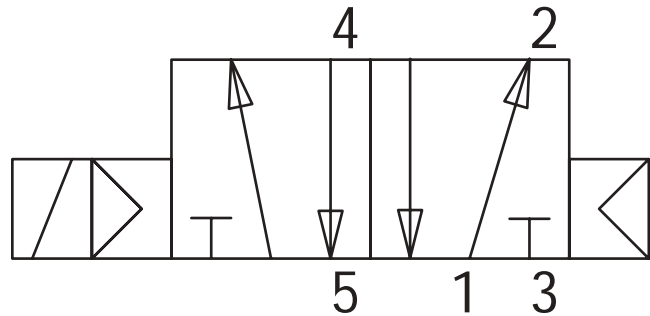
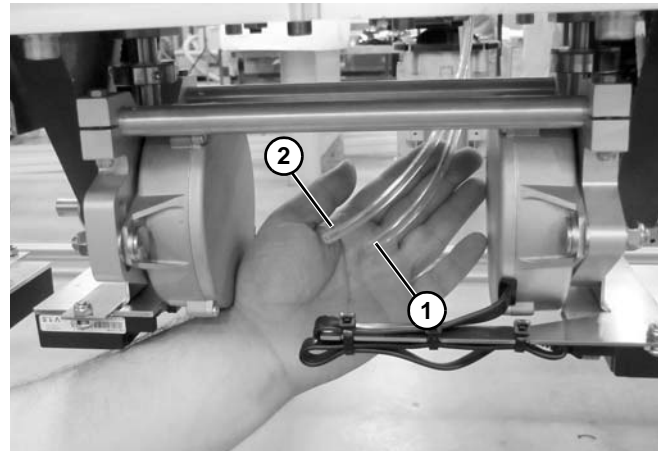

Figure 39
Figure 40
Dorner recommends using a 5 port, 2 way, solenoid valve (**Figure 39**) to operate unit.
1. Connect port 4 (**Figure 39**) of the 5 port, 2 way valve to the lower port (**Figure 40, item 1**) on the lift. Dorner fittings accept 1/4" outside diameter tubing standard.
2. Connect port 2 (**Figure 39**) of the 5 port, 2 way valve to the top port (**Figure 40, item 2**) on the lift. Dorner fittings accept 1/4" outside diameter tubing standard.